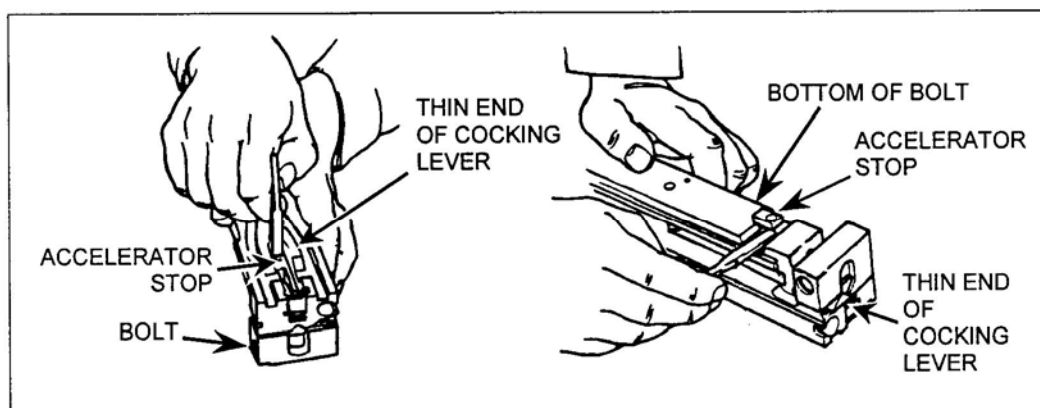

Figure 13. Removal of the accelerator stop.
- ( f ) Using the thin end of the cocking lever, press the accelerator stop from the bolt, turn the bolt over, and pry the accelerator stop from bottom of bolt (Figure 13).